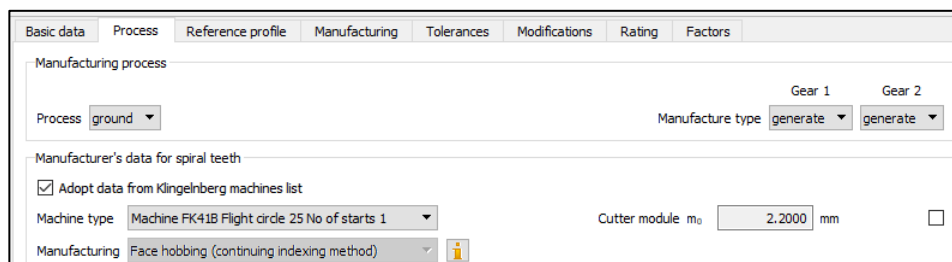

Figure 25. Selecting the cutter tip from the list of Klingelberg machines
8. Under «**Process**», select «**Face hobbing (continuing indexing method)**» as the manufacturing process, and enter the «Cutter radius» and the «Number of tools blade groups». We recommend you use the sizing function  to the right of the «Cutter radius» input field to get a suggested value for the minimum cutter tip size (in accordance with Klingelberg «Bevel gears», page 70) and then enter the cutter tip radius that was actually used, from Production. As an alternative, you can transfer the cutter tip from the «**List of Klingelberg machines**» if the checkbox is active (see Figure 25).